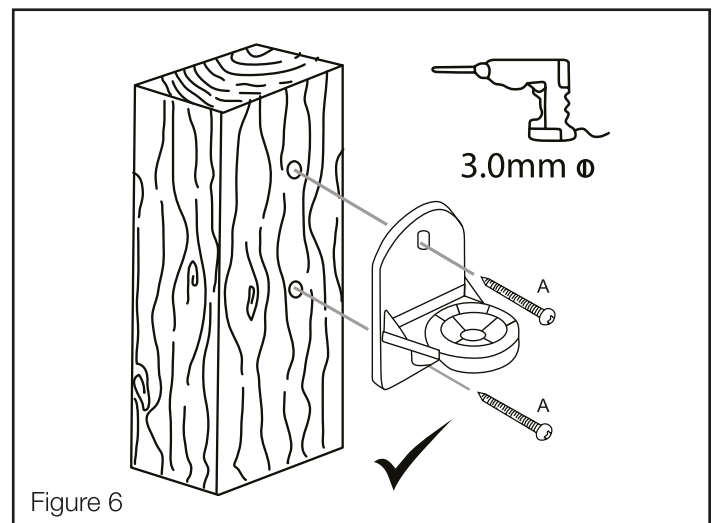

Figure 6
1. Locate centre of timber post and mark two fixing holes over the centres using the wall plate as a guide. Ensure wall plate is straight and level (see Figure 6).
3. Attach the wall plate using the 25mm woodscrews (A). Do not over tighten.